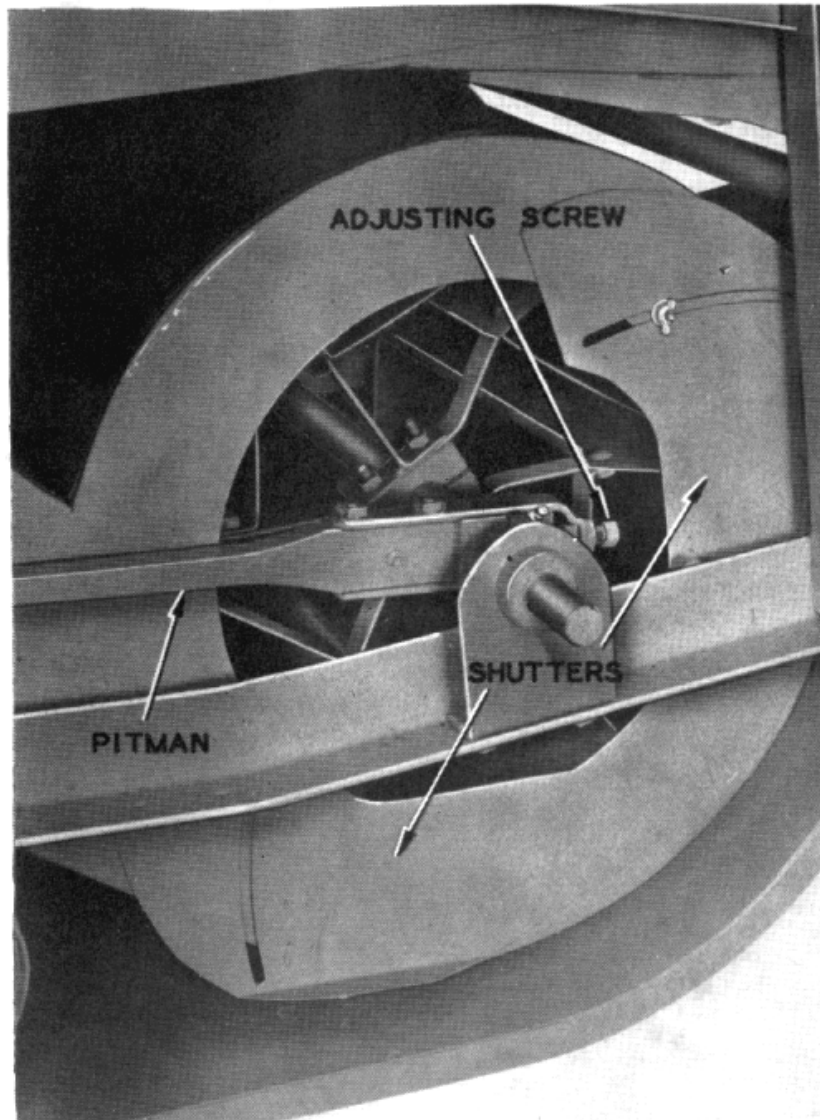

Fig. 43
**Wooden pitmans** (Figs. 43 & 44) used to drive or shake the shoe assembly are connected to the fan shaft by means of wooden bearings. These bearings are split, and may be adjusted for proper tension with **adjusting screw** on "U" strap used to connect pitman and bearings.